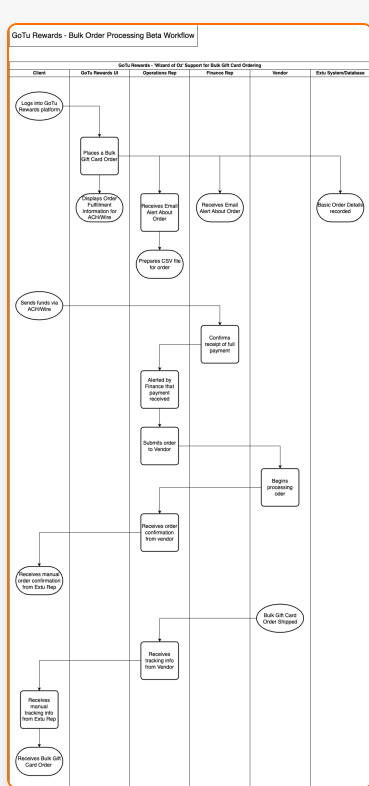

Fig. 15: Wizard of Oz Process Workflow
- Collaborated with Sales and Operations stakeholders to define a clear process map for manual support (see **Fig. 15**).